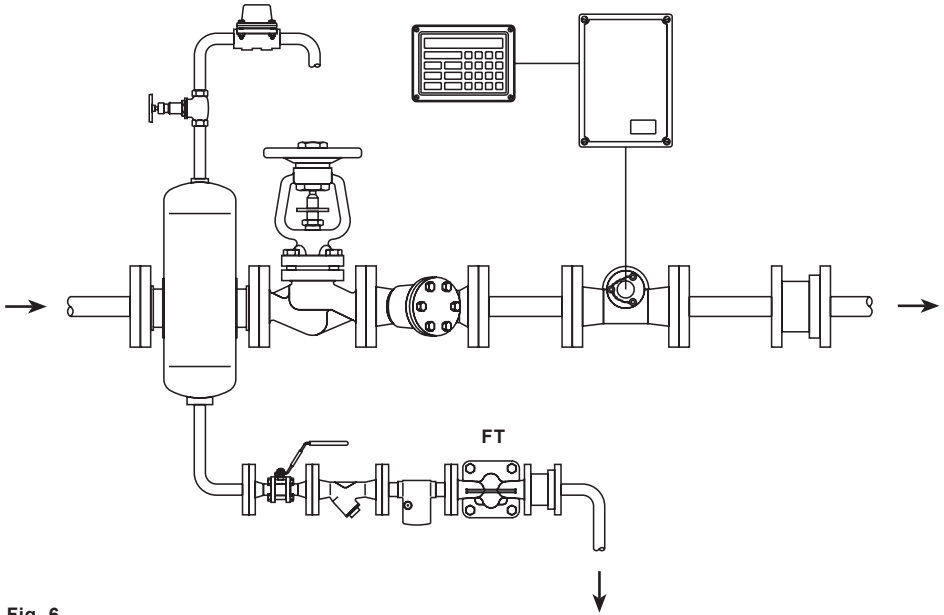

Fig. 6
- 3.5 The trap should be fitted below the outlet of the steam system, with a small drop leg immediately preceding the trap, typically 150 mm (6") see Figure 6. If no drop leg is allowed for then it may be possible (under low load conditions) for steam to flow over the condensate in the bottom of the pipe and reach the trap.